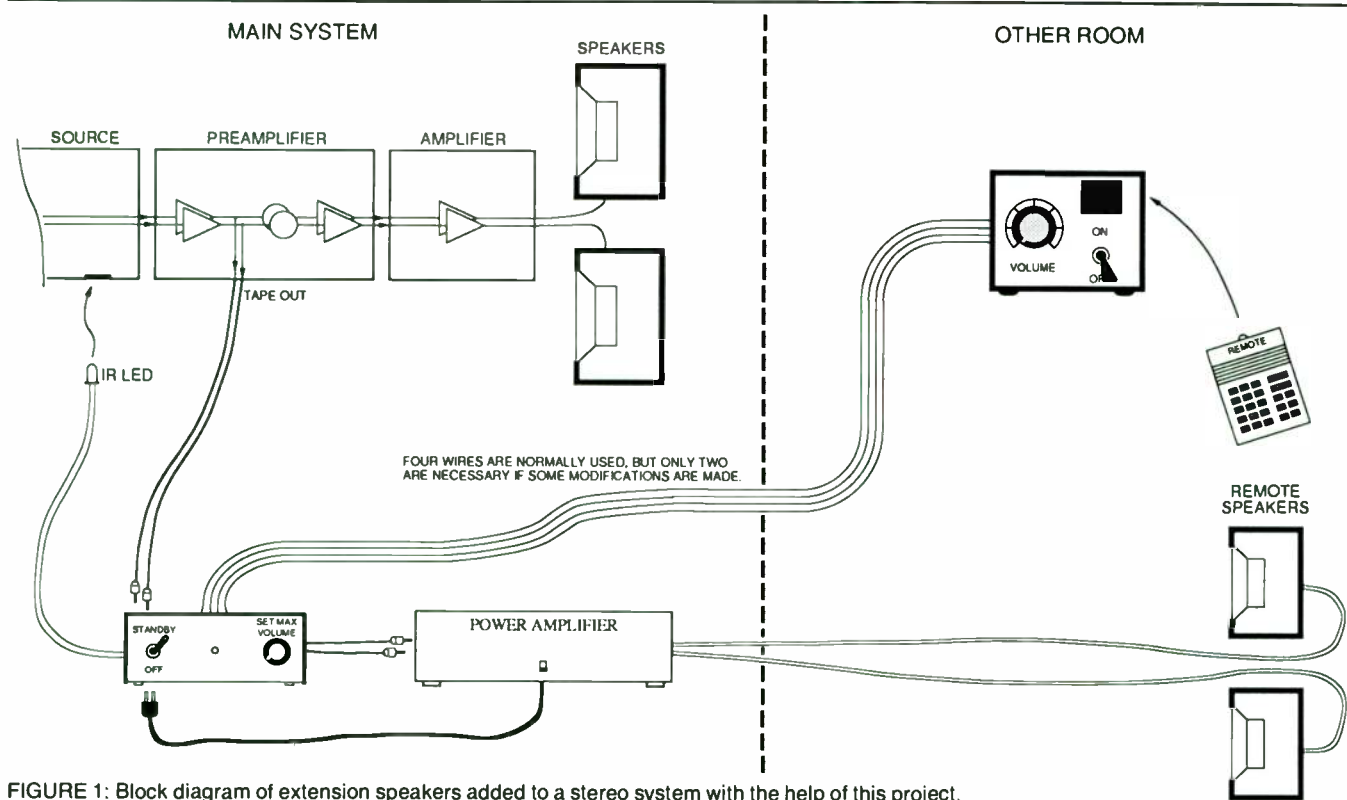

FIGURE 1: Block diagram of extension speakers added to a stereo system with the help of this project.
The block diagram in Fig. 1 shows how you can use this project and an extra power amplifier to add extension speakers to a main stereo system. Extension speakers are often connected to a main stereo system by switching them in parallel with the main amplifier's existing speaker outputs. Connecting two sets of speakers to one amplifier, however, has a number of disadvantages. The amplifier may have trouble driving the lower impedance presented by the two speakers.
**OPERATION.** The remote volume control should be left switched on all the time and connected to your stereo as shown in *Fig 1*. Until you turn on the remote switch, it remains in a standby condition. Only when switch S2 is on is LED2 lit and the extension amp activated. The power the remote volume control draws during standby is insignificant and the part of the circuit connected to the stereo